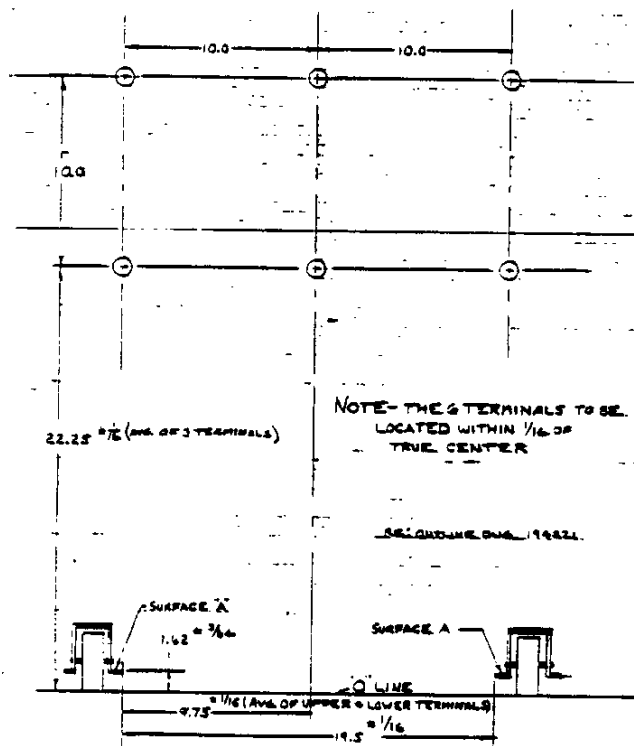

FIG. D5
22. Using the test fixture, align the 6 terminals per Figure D5